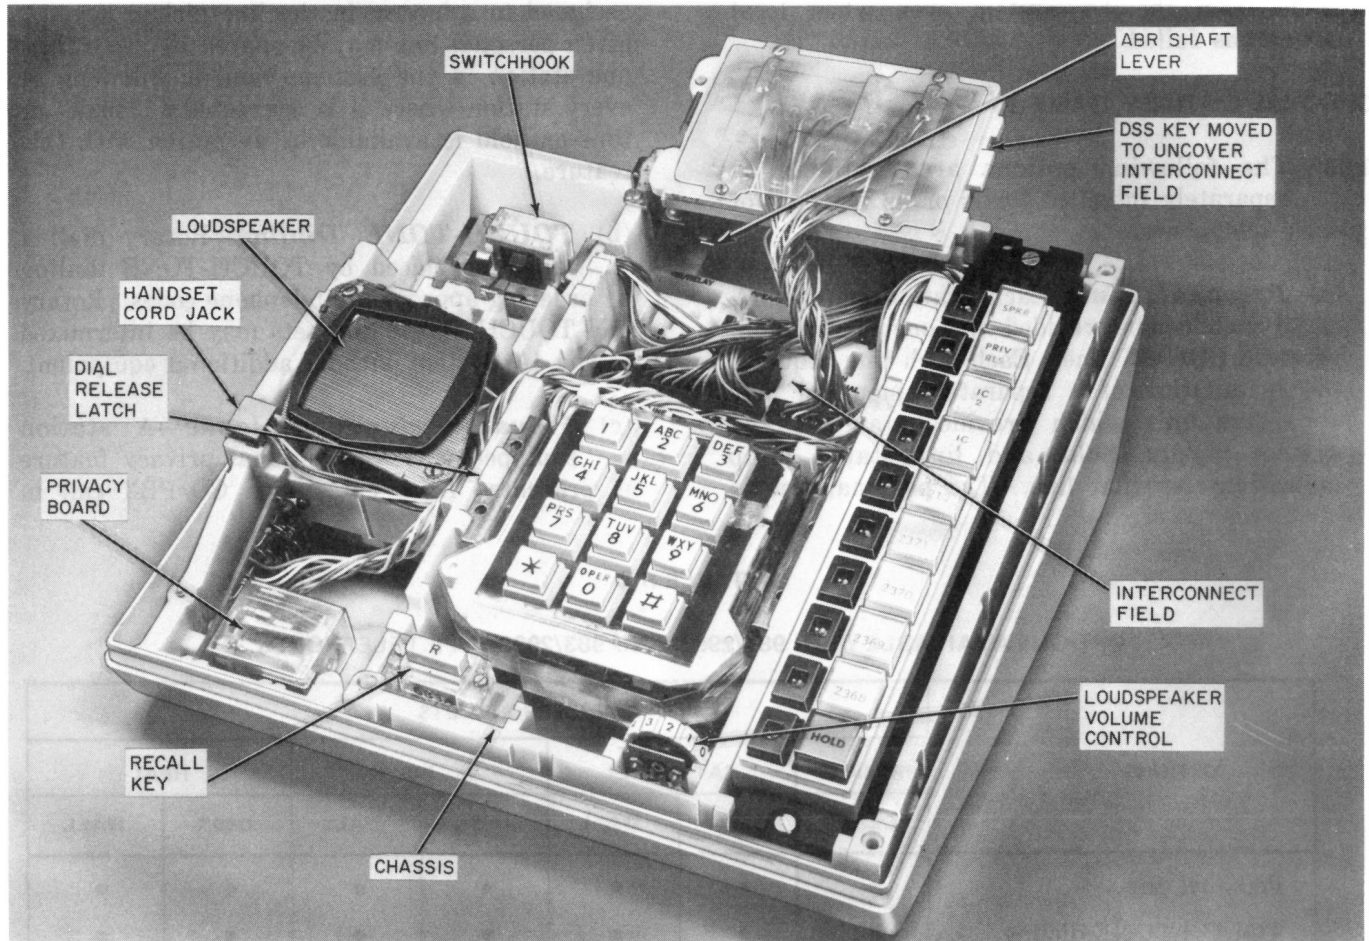
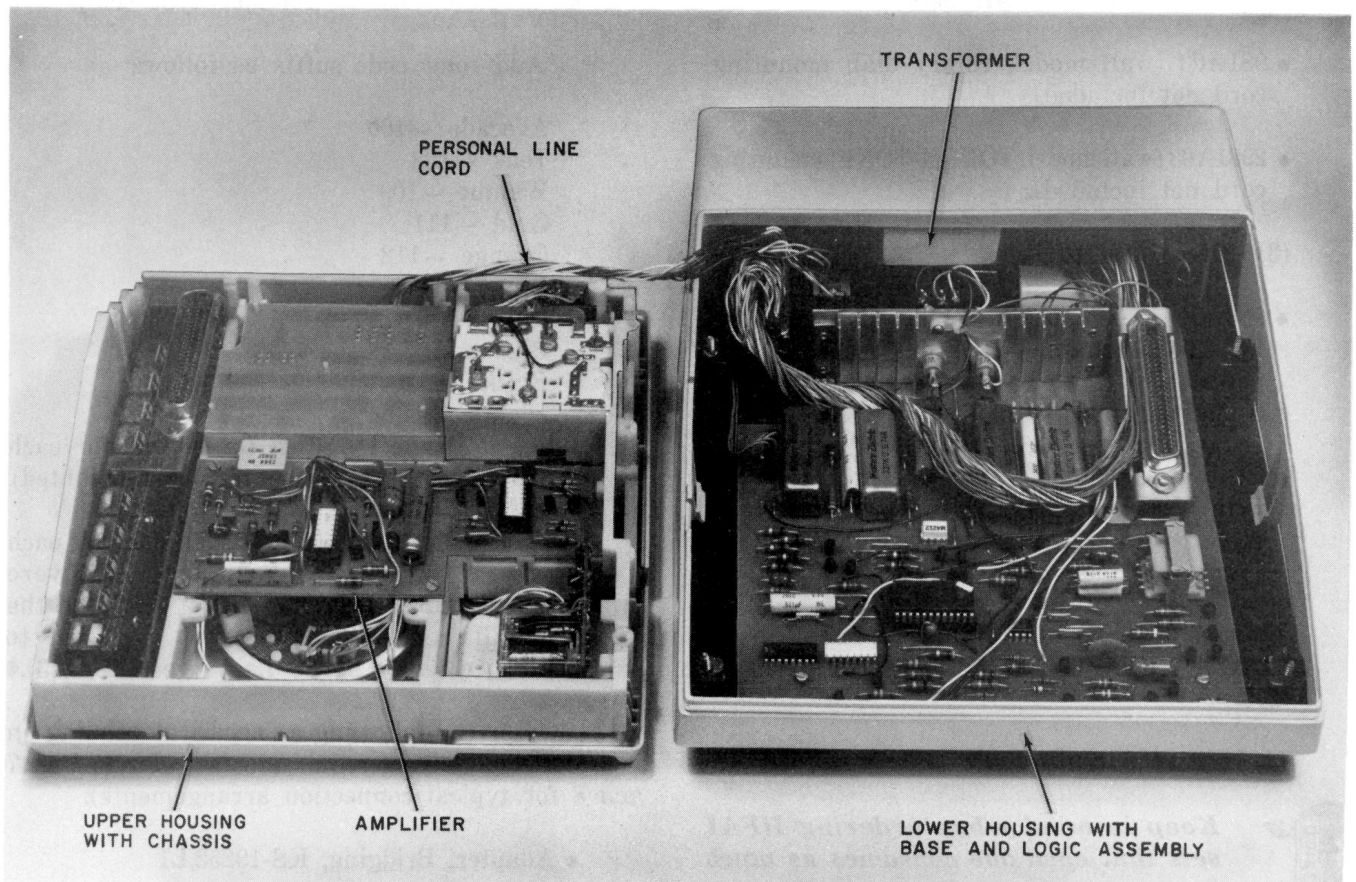

Fig. 5—Basic Satellite Desk Set With Faceplate and Upper Housing Removed
Fig. 6—Primary Set Disassembled
2.06 The internal arrangement of the telephones is based on the use of a molded plastic chassis to which the components of the set are attached and an electrical interconnect field into which the components are plugged (Fig. 5). The interconnect field also contains positions for plugging in optional features and switches A through H for adapting the set to options. Outside connections are made by way of the set mounting cord or separate cords for such optional features as personal lines, 4A speakerphone, and repertory dialing. In primary sets (Fig. 6), the mounting cord plugs into a wiring harness which distributes leads to the line key and the control logic board. In the other desk-type sets, the mounting cord plugs directly into the line key. The system connector cable is intended to be plugged directly into the wall sets without the use of mounting cords, which are not supplied with wall sets.
2.07 Mounted on the base of each primary set is a logic board containing control and power circuitry for two CO/PBX lines and one intercom path, and a transformer for supplying ac power to the logic board (Fig. 6). Up to seven satellite telephones can derive their power from one primary set. Each primary set contains a polarity guard circuit which prevents battery reversals on the CO/PBX lines from interfering with TOUCH-TONE dial operation and multiline conferencing.